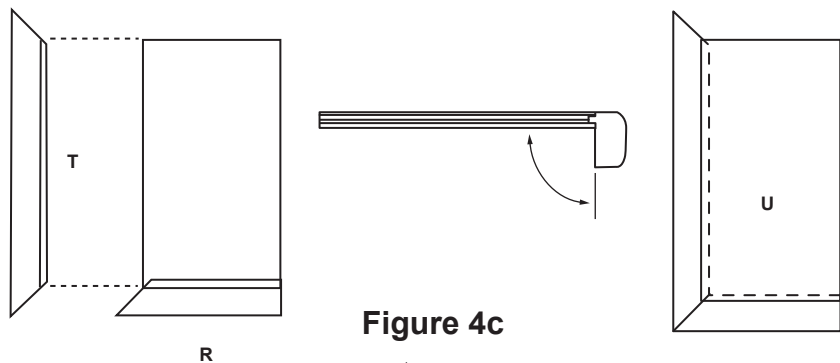

Figure 4c
3. Finish trimming the 9" moulding to fit the false tread **Q**. Fit and install the moulding to the false treads **R** using glue. (See Figure 4c.) Be sure that the moulding remains square to the tread. (See Figure 4c.)
5. Fit and install the side moulding to the false treads **T** using glue. Be sure that the mouldings remain square to the tread. (See Figure 4c.)
6. Install the assembled false treads to the stair using glue and finish nails **U**. (See Figure 4c & 4d.)